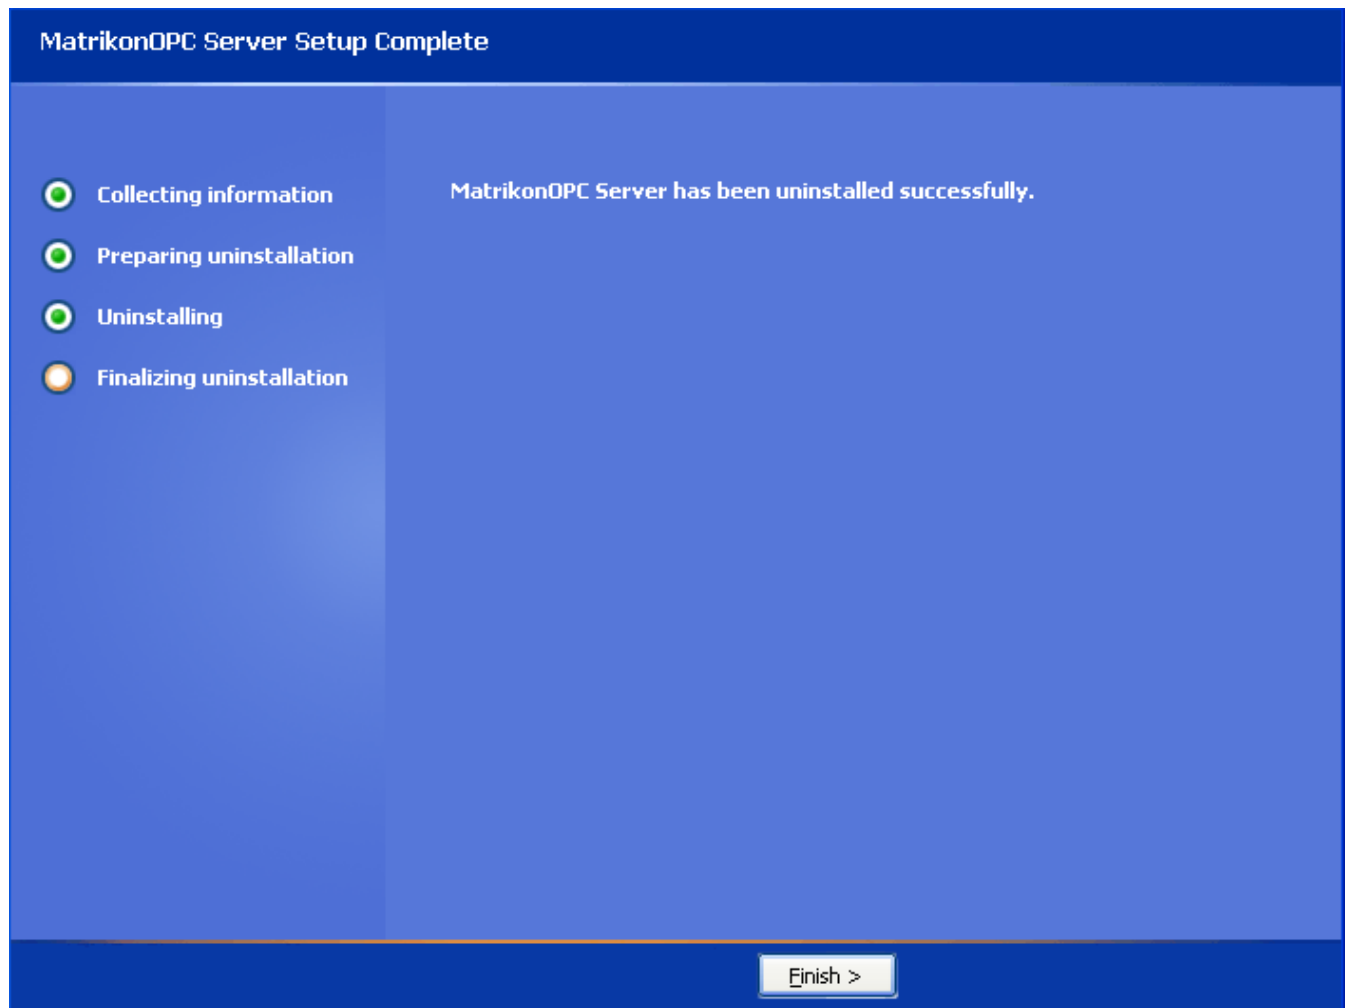

Figure 103 - MatrikonOPC Server for Modbus Setup Complete Screen
11. When the un-install has finished, the **MatrikonOPC Server for Modbus Setup Complete** screen (Figure 103) appears stating that MatrikonOPC Server for Modbus was successfully un-installed.